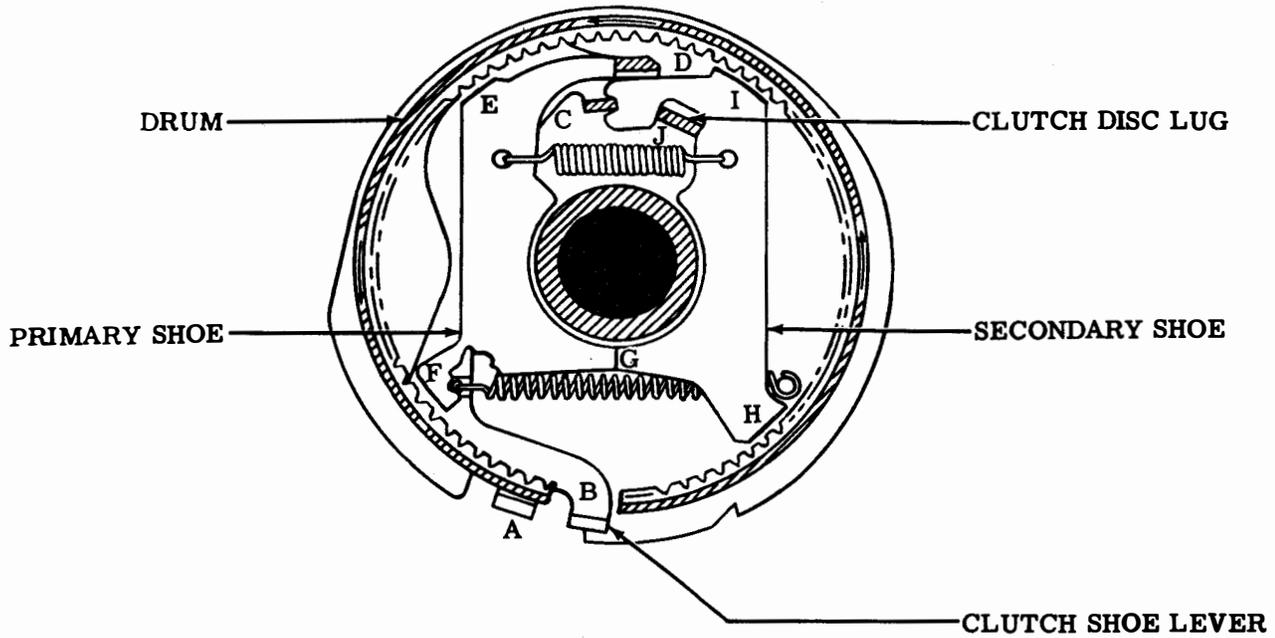

Figure 3-18. Clutch Disengaged
(2) Clutch Disengaged. The clutch is disengaged (figure 3-18) by